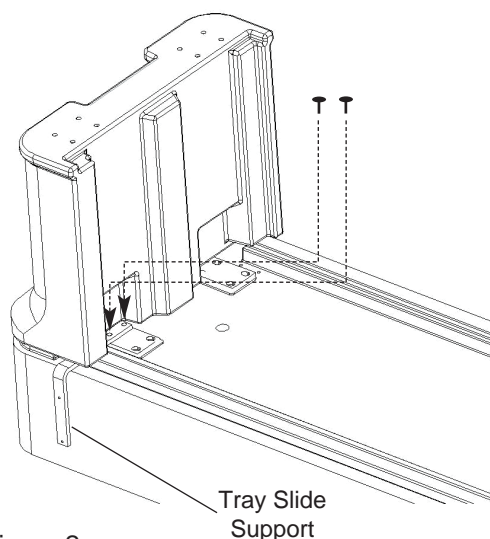

Figure 2
- Step 4: **If you have end shelves or tray slides, refer to those instruction sheets to install the brackets now.** Otherwise, insert four 5/8" Hex Head Bolts (longer bolts) with washers into the remaining holes closest to the leg (see Figure 2).